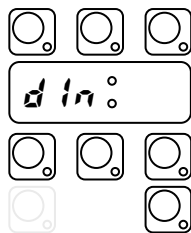

Fig. 3.2
- Press CYCLE\_INFINITE. The display shows alternatively the symbol dIn and the duration in seconds (Fig.3.2 and 3.3);